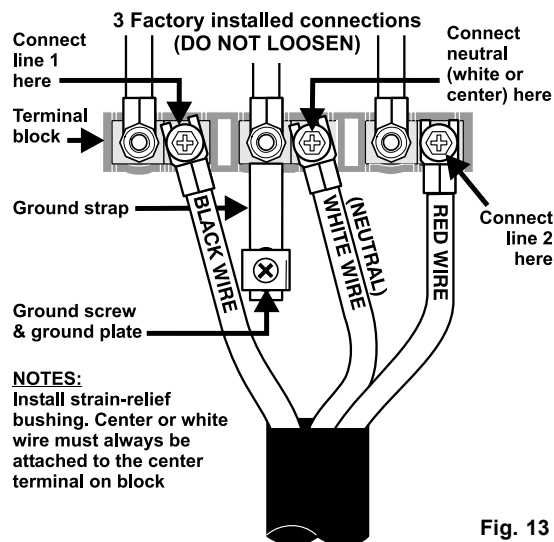

Fig. 13
(3-Wire Connection Instructions . For existing installations ONLY - Refer to Fig. 13).
2. Insert the end connectors for Line 1, Line 2 and Neutral and tighten securely to the terminal block (See Fig. 13).
Grounding Instructions (3-Wire Connections only): A ground strap is installed on this range which connects the center terminal of the terminal block (Neutral) to the range chassis. The ground strap is connected to the range by the center, lowest screw (See Fig. 13). The ground strap must not be removed unless National, State or Local Codes do not permit use of a ground strap.